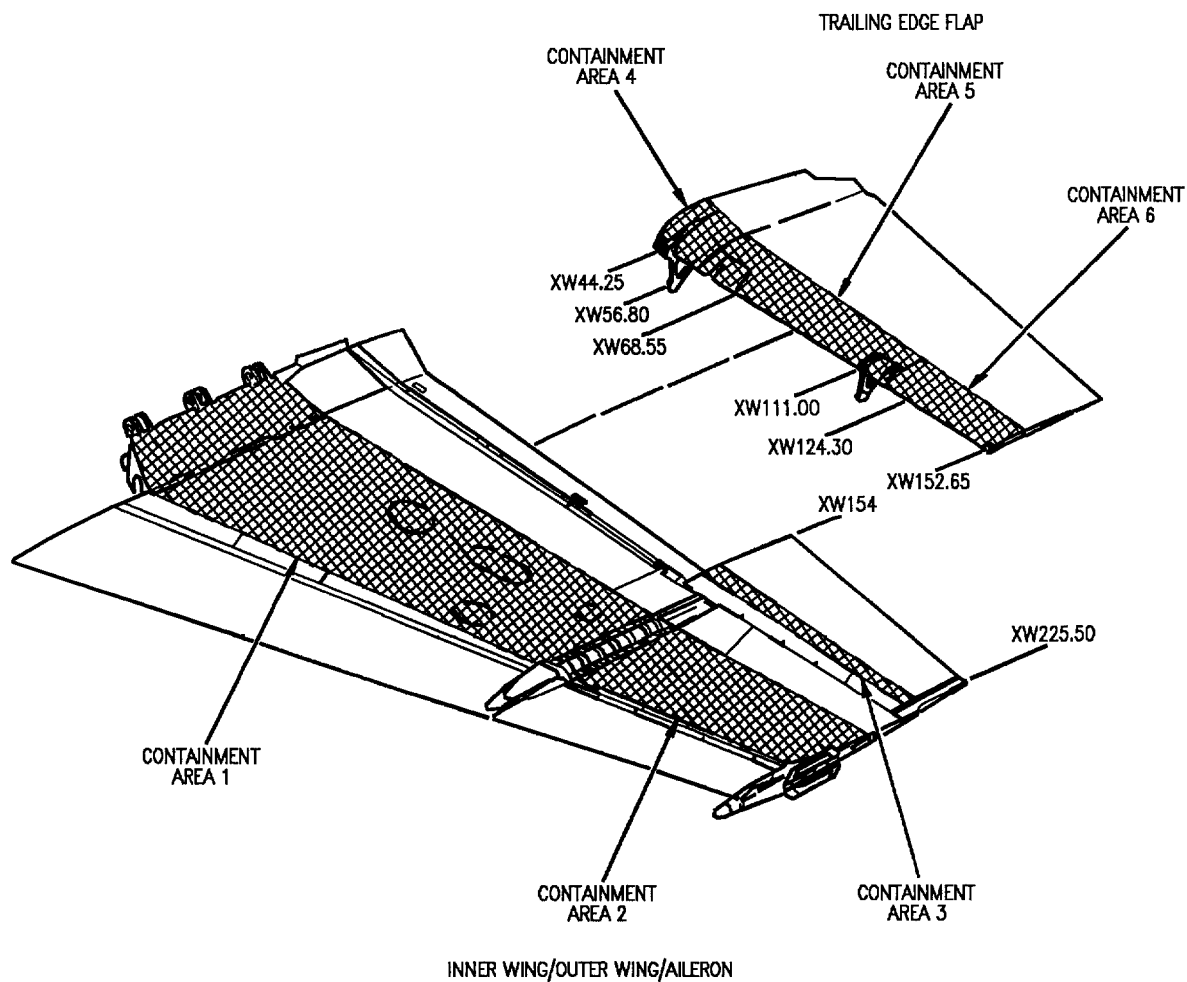

Figure 1. Foreign Object Containment Areas
8. FOREIGN OBJECT CONTROL. See figure 1.
10. FOREIGN OBJECT CONTAINMENT AREAS. See figure 1. Foreign object containment areas are described below:
2. **DAMAGE EVALUATION.** See figures 1 and 2. Damage is classified as negligible and repairable. The types of materials used are shown on figure 1 and repair zones are shown on figure 2. Locating and determining size of damage by visual method is organizational maintenance. Damage not listed or exceeding the limits below requires a depot engineering disposition.